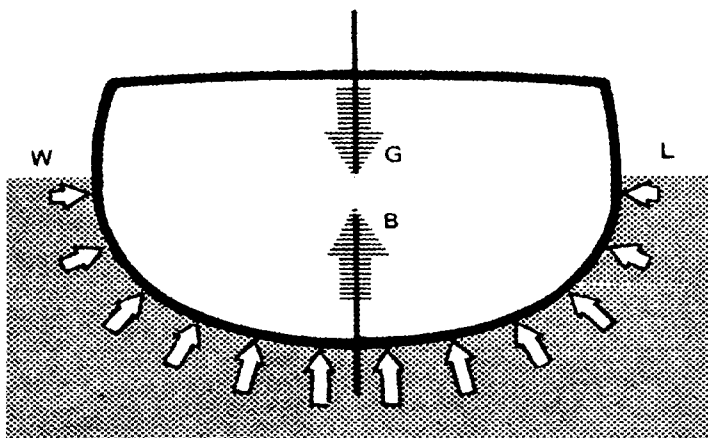

Fig. 7-4 Relationship of buoyancy and gravity centers
- (3) Neutral Stability. If the ship settles in the orientation it is placed in by the disturbing force, it is neutrally stable. Neutral stability seldom occurs on a floating ship. If it does occur, extreme care should be taken not to exert any heeling force on the ship, because in all likelihood it will cause the ship to capsize.
- c. To understand the principles governing stability you must first understand the principle of buoyancy. When a ship is placed in water, it displaces a volume of water, the weight of which is equal to the weight of the ship. The displaced water exerts a pressure on the hull, tending to force the ship back out of the water. This upward force is buoyancy. The resultant buoyant force acts in a vertical line through the center portion of the ship's body. This point is called the center of buoyancy and is designated by the letter B in **Figure 7-4**. B is a function of the ship's underwater body shape and volume, and is not easily affected by the crewmembers.
- d. Countering the force of buoyancy is the weight of the ship and its cargo. Though the weight of the ship is distributed throughout the ship, it is considered to act through a single point. The point through which this resultant force acts is called the center of gravity, and is designated by the letter G. The weight of the ship also acts in a vertical line, but in a downward direction (see **Figure 7-4**). The center of gravity of a ship is solely a function of weight distribution within the ship. The center of gravity is in a fixed position for each condition of loading of the ship. It moves whenever there is a weight addition, removal or movement within the ship.